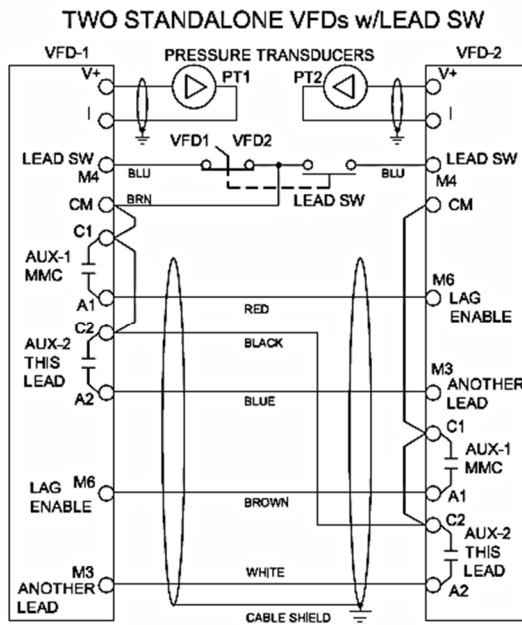

FIG. 2
**Control wiring.** For DIC (Duplex Interconnection Cable) wiring between two VFDs or two enclosed VFD panels refer to the following diagrams (VDP panel prewired from the factory). The configurations shown on figures 2, 3 and 4 require extra wiring for optional alternating switch or alternating pushbutton or auxiliary N.C. contact for HOA switch Auto position. Use multi-wire shielded cable for control wiring with shield drain wire isolated on VFD-1 side and connected on VFD-2 to a ground. Put shrink tube or electrical tape to isolate bare shield drain wire to protect from shorting any VFD or panel terminals. Use shielded cable for pressure transducer wiring with shield drain wire connected to a ground point at VFD or enclosed VFD panel. Isolate bare shield drain wire with shrink tube or electrical tape and connect it to ground terminal.
The standalone VFDs or VFDs in two enclosed VFD panels should be set to centrifugal or submersible pump application with all the necessary control and protection features based on provided QSG (quick start guide). Both VFDs' parameters should be set identically except VFD ID and Lead/Lag setting. It is recommended to set all the necessary parameters for VFD-1 then save changes to a keypad and use its keypad to program VFD-2. Set motor data parameters according to motor nameplate for proper system operation and motor protection. Then set all the necessary parameters for basic duplex control and additional parameters for configurations shown on figures 2, 3 and 4.
#### Lead Switch Option Parameters (Fig.2)